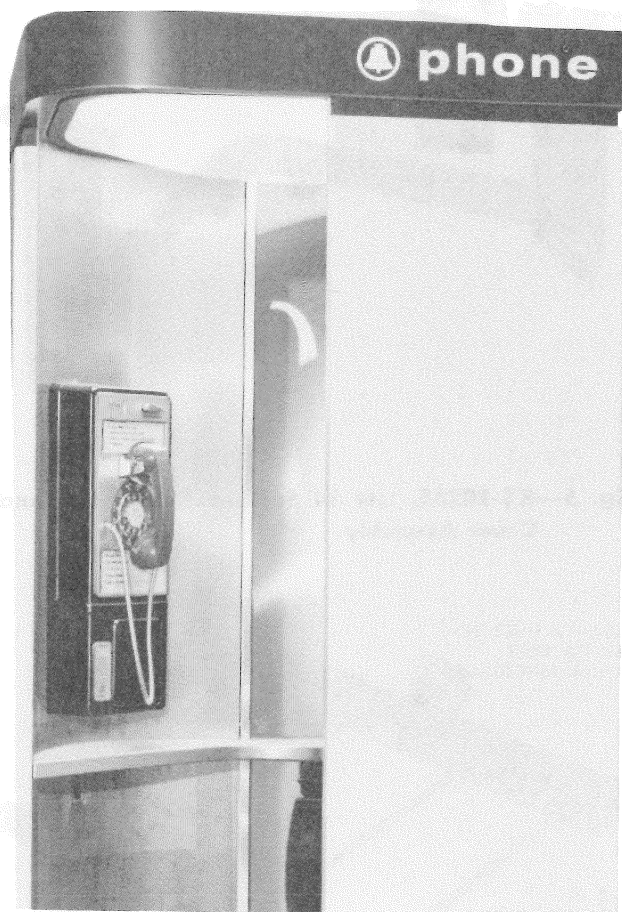

Fig. 7—Telephone Kiosk with 1A/1C Type Coin Telephone Set Installed
2.03 The kiosk is designed for use with a 1A/1C-type coin telephone set (Fig. 7).